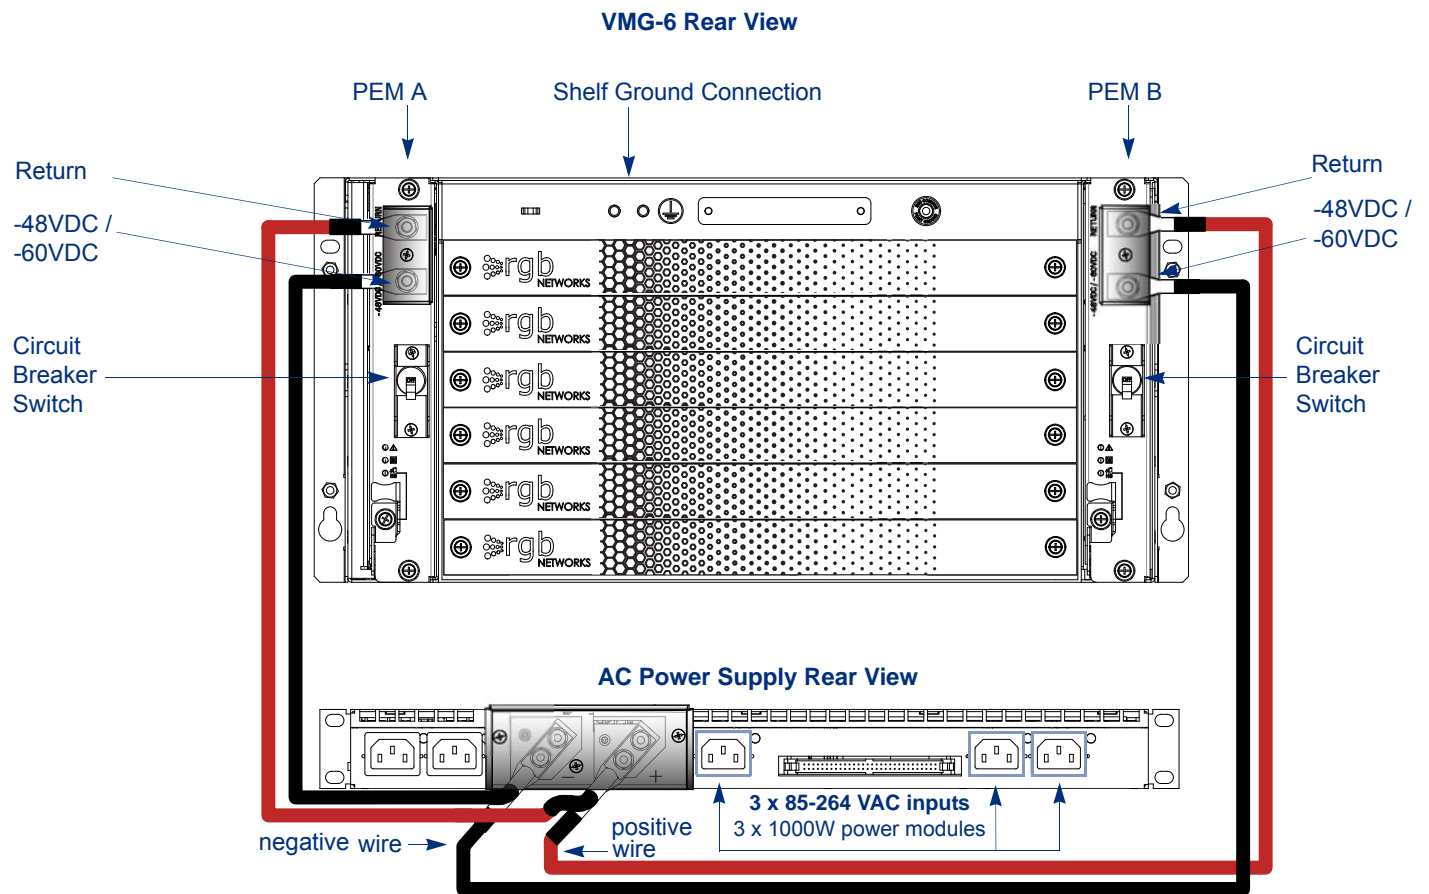

Figure 1. VMG-6 with AC Power Supply - PEM Redundancy
1. Power Entry Module (PEM) redundancy with one AC power supply chassis (Figure 1).
Figure 1 shows a diagram of the PEM redundancy solution.
Note: Be sure to connect the wires according to the polarities shown in Figure 1.